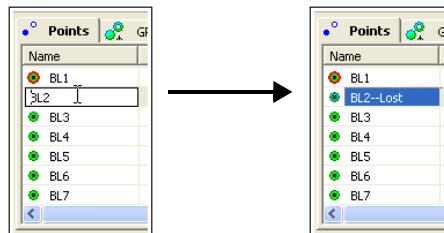

Figure 5-14. Edit Point Name
2. Select or type the new point name. Click outside the cell or press **Enter** to save the new information (Figure 5-14).